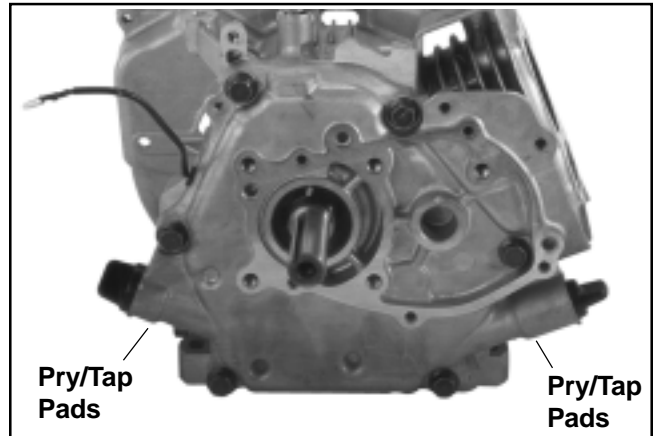

**Figure 9-73. Removing Dowel Pins and Gasket.**
6. Remove the dowel pins and gasket. Clean the gasket surfaces with a cleaning solvent or aerosol type gasket remover. **Do not nick or scrape the sealing surfaces.** See Figure 9-73.